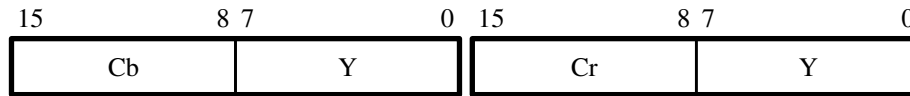

Figure 20. YCrCb 4:2:2 Color Space.
- YCrCb 4:2:2 — This format has only half of the Cr and Cb components. Each consecutive pixel has alternating Cr or Cb components, with the first pixel in the frame starting with the Y and Cb pixel. Figure 20 shows two consecutive pixels for this format. This mode is defined as 8 bits per symbol and two symbols per beat.